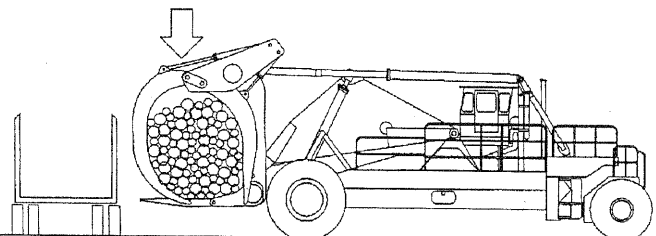

Fig. 4-6
6. With the load clear of the vehicle, back away and lower the load to about 3 feet above the ground or just high enough to clear any obstructions on your way to the point of unloading. See Fig. 4-6.